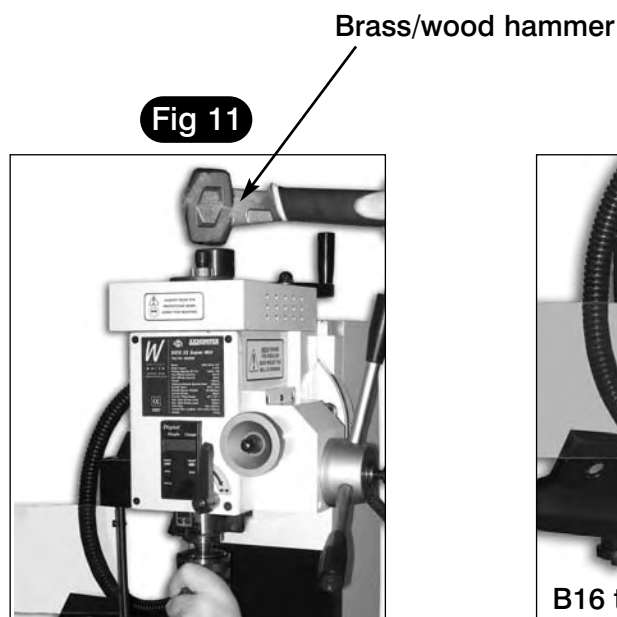

Fig 11
4) Remove the hex key and tommy bar, support the chuck with one hand and using a brass or wooden hammer strike the arbor to release the chuck taper from the spindle taper. Unscrew the chuck from the arbor and remove. (See figs 11 & 12)